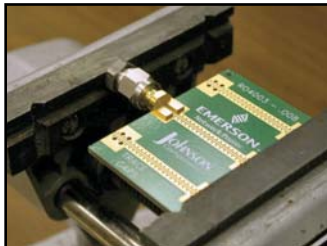

Figure 1
- Fixture 140-0000-973 should be used as an aid during manual mounting. The fixture protects the connector from damage during clamping and maintains the proper location of the connector's insulator and center pin. To use the fixture, thread the coupling nut on the mating end of the connector and hand tighten. This mounting assembly can now be held in place by a similar clamping device, as shown in Figure 1.